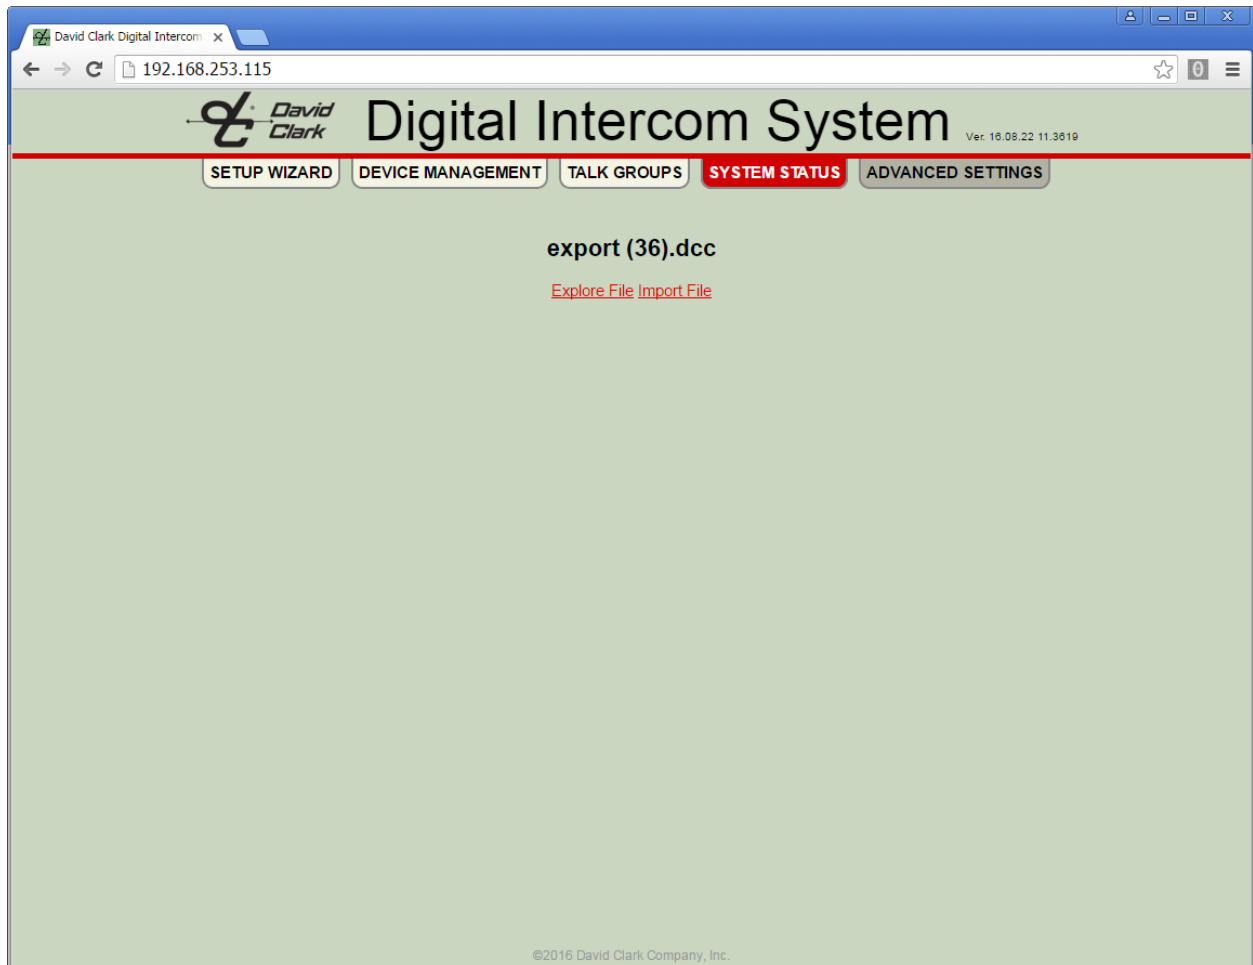

Figure 8.12: Import File
- Once the file is processed and verified, the system will present the option of exploring the file or importing the file. See **Figure 8.12**.